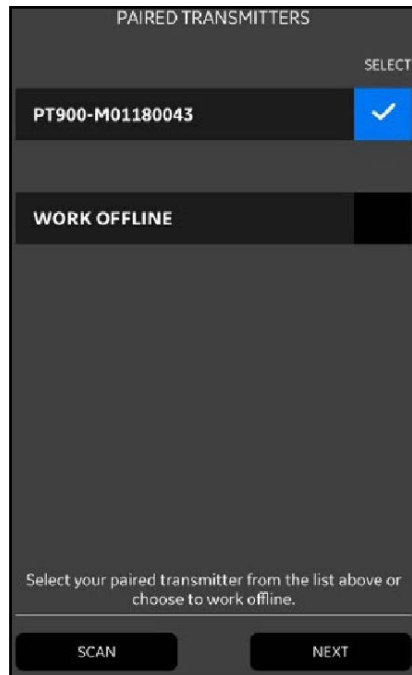

Figure 70: Paired Transmitters List
12. Click the BACK button on the tablet to return to the PT900 APP main menu. Then, select your PT900 transmitter in the TRANSMITTERS PAIRED list and click NEXT to open the Main Menu. For example, the PT900-M09160025 transmitter is selected from the list in *Figure 70* below.
Note: If desired, you may simulate the APP operation without connecting to the transmitter. To do so, click the *WORK OFFLINE* option in *Figure 70* above.